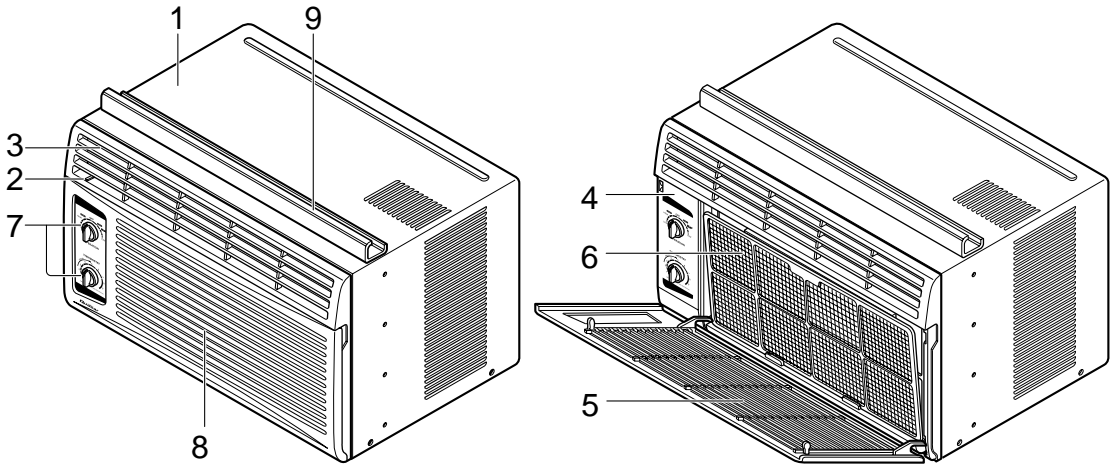

**Fig. 4**
3. Push the grille up from the bottom and pull the top of the grille away from the case as the top tabs lift out of their slots. (Fig. 4)